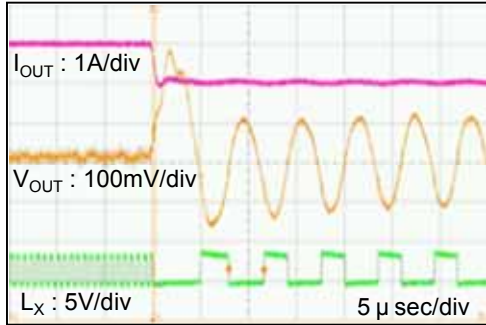
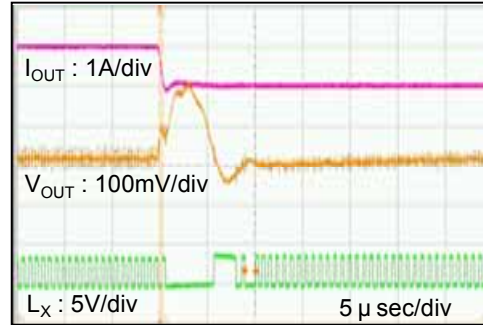
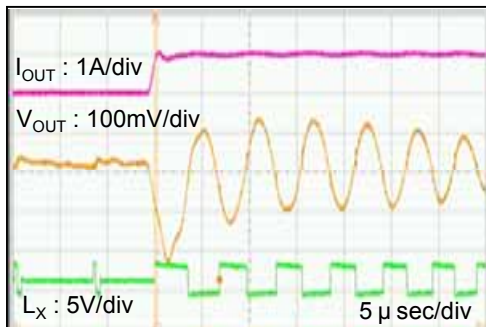
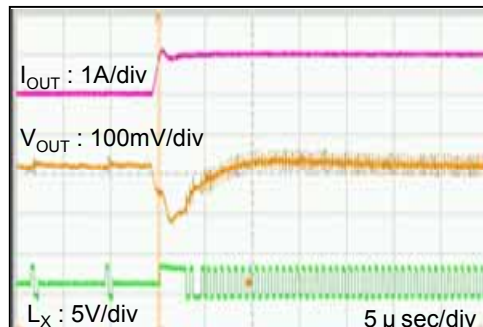

Fig. 14-1 Insufficient C_L ($T_a = -40$, $C_L = 10 \mu F$)
Fig. 14-2 Sufficient C_L ($T_a = -40$, $C_L = 20 \mu F$)
Fig. 14-3 Insufficient C_L ($T_a = -40$, $C_L = 10 \mu F$)
Fig. 14-4 Sufficient C_L ($T_a = -40$, $C_L = 20 \mu F$)
14. If the capacitance value is not sufficient by degrading C_L due to the low temp. condition and DC bias feature, 100% duty cycle might come up for the load transient condition. Add capacitance value for C_L if necessary. (Refer to Fig14-1, Fig14-2, Fig14-3, Fig.14-4)